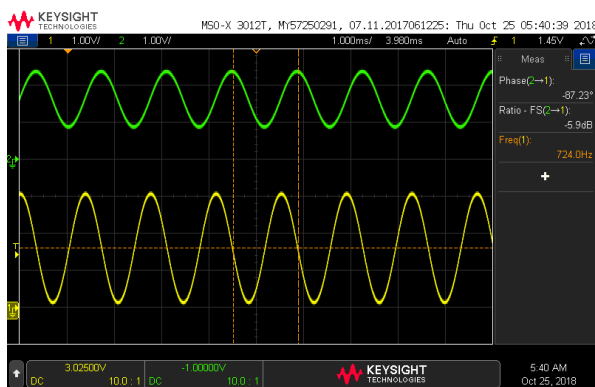

Figure 4: The input and output of the low-pass filter.
- Observe the oscilloscope, adjust the 100k POT until the output waveform is centered to 2.5V. As an example, the input in Figure 4 is coming in on channel 1 (yellow trace) and the level-shifted output is on channel 2 (green trace).